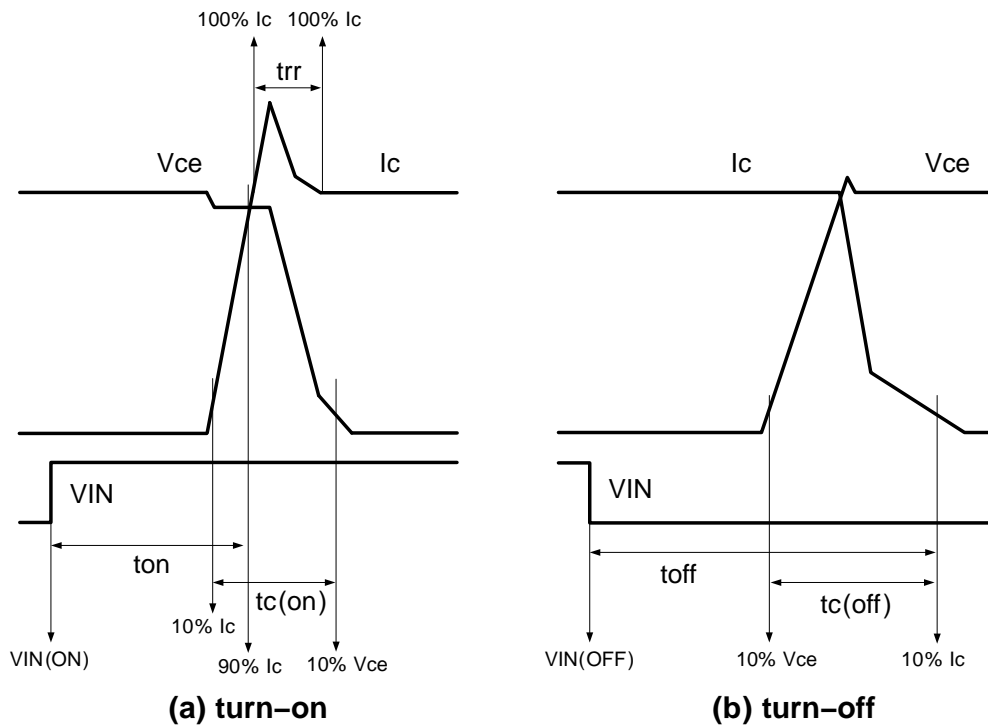

Figure 3. Switching Time Definition
- ton and toff include the propagation delay of the internal drive IC. tc(on) and tc(off) are the switching times of IGBT under the given gate–driving condition internally. For the detailed information, please see Figure 3.